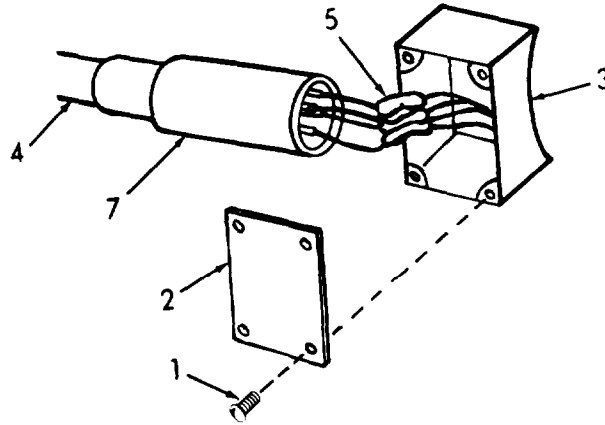

Figure 4-5. Power Cable Replacement (Electric Motor Driven Pump).
(1) Refer to figure 4-5. Remove screws (1) that attach connection box cover (2) to motor (3).
(2) Disconnect power cable (4) from wires (5) inside connection box.
(3) Loosen connector (7) and remove cable (4).